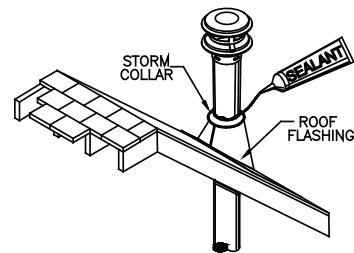

Figure 9
I. To finish, apply non-hardening waterproof sealant where the Storm Collar will meet the vent and Flashing; slide Storm Collar down until it rests upon the Roof Flashing (**Figure 9**). Holding the base of Cap, firmly twist lock your Vertical Termination Cap onto supported Pipe Section protruding through the roof line.